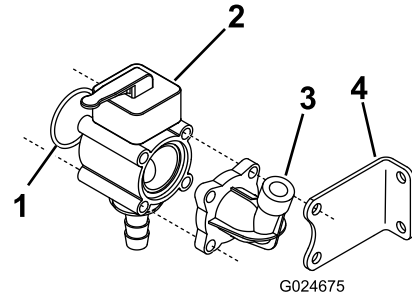

Figure 4
3. Install the O-ring, manual valve assembly, previously removed pressure-gauge port, and the stabilizing bracket using the 4 threaded rods and retained flat washers and nuts; refer to Figure 4.